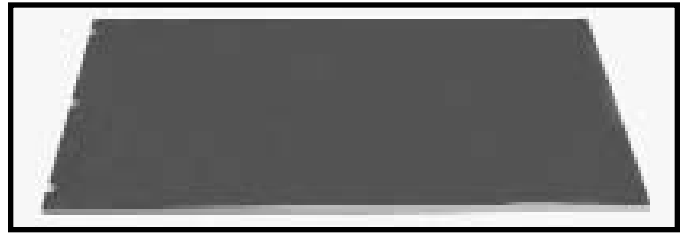

Fig. 5
2. Lay the table upside down on the floor or bench, as shown in Fig. 5.